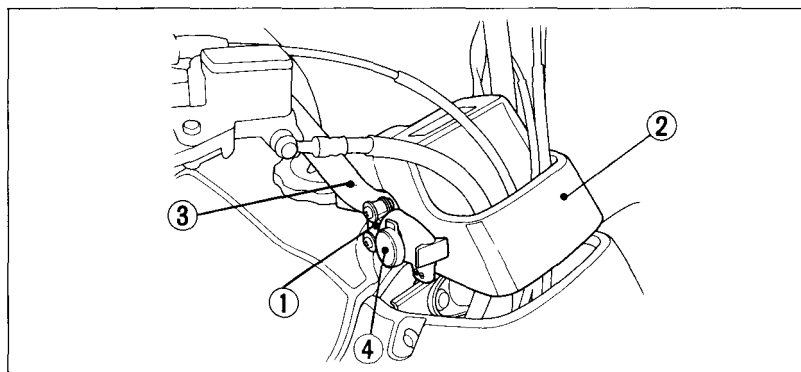

Fig. 2-24
The DC receptacle (1) (Fig. 2-24) is attached to the right handlebar, near the handlebar cover (2). The receptacle provides 12 V DC power at a maximum of 180 watts (15 amps). If you exceed this limit, you may blow the fuse. (For information on fuses, and how to replace a fuse, see pages 111 – 112.)
(1) 12 V DC receptacle
(2) Handlebar cover
(3) Right handlebar
(4) Special DC plug
Electrical accessories may be connected to the receptacle by using the special DC plug (4) (Fig. 2-24) that comes attached to the receptacle. Be sure to use only accessories that are designed for 12 V DC power.
1. Remove the plug (4) from the receptacle (1) (Fig. 2-24).